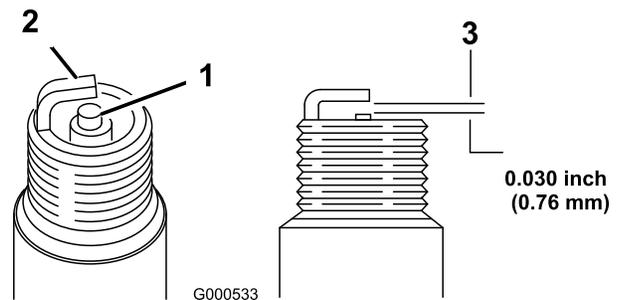

Figure 29
11. Set the gap on the plug to 0.030 inch (0.76 mm) as shown in Figure 29.